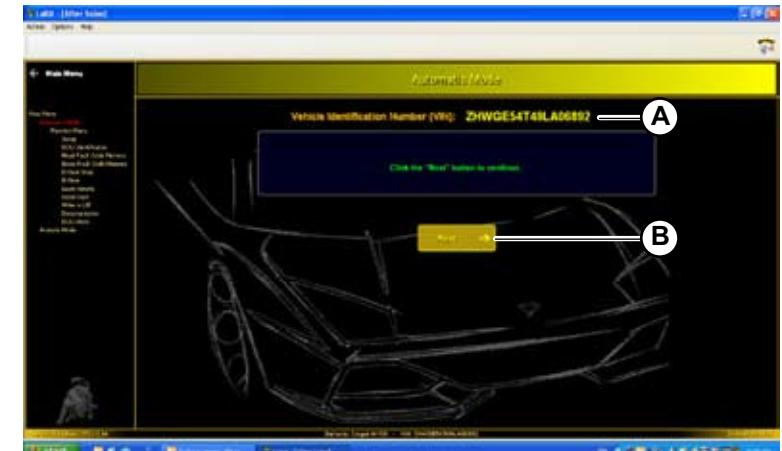

Fig.48
- In automatic mode, the system automatically reads the vehicle's VIN that is displayed in the field (A-Fig.48)
- click NEXT (B-Fig.48) to gain access to the automatic setting functions.